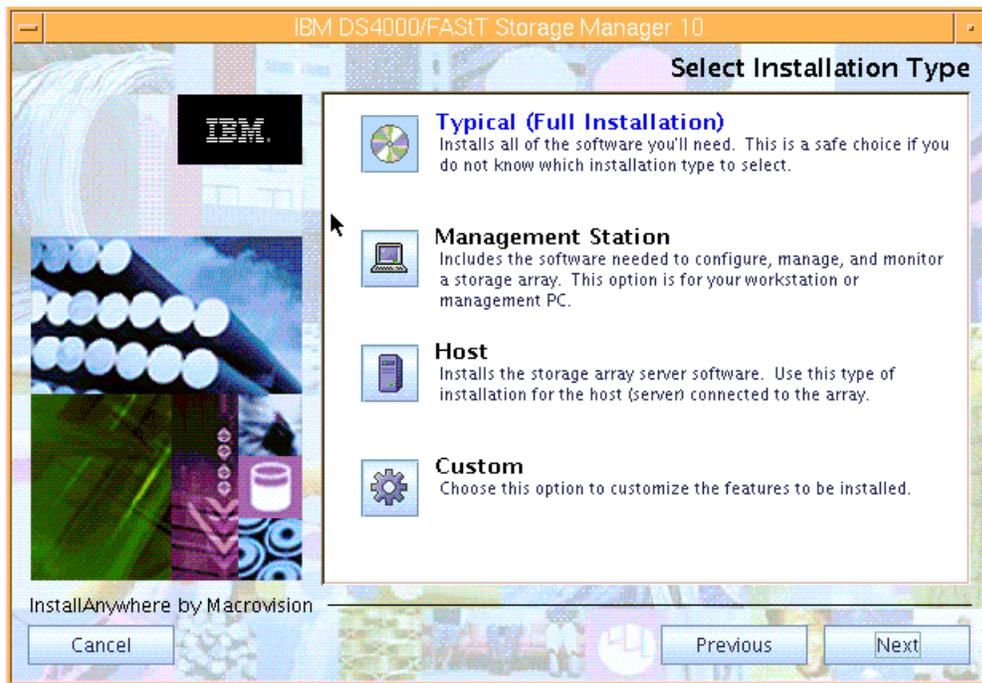

Figure 5-12 Installing Storage Manager software in AIX
6. Select the installation type, as shown in Figure 5-12. The installation type that you select defines the components that are installed. For example, if you select Management Station, the agent component is not installed because it is not required on the management computer. In most cases, you would select either the Management Station or Host installation type.